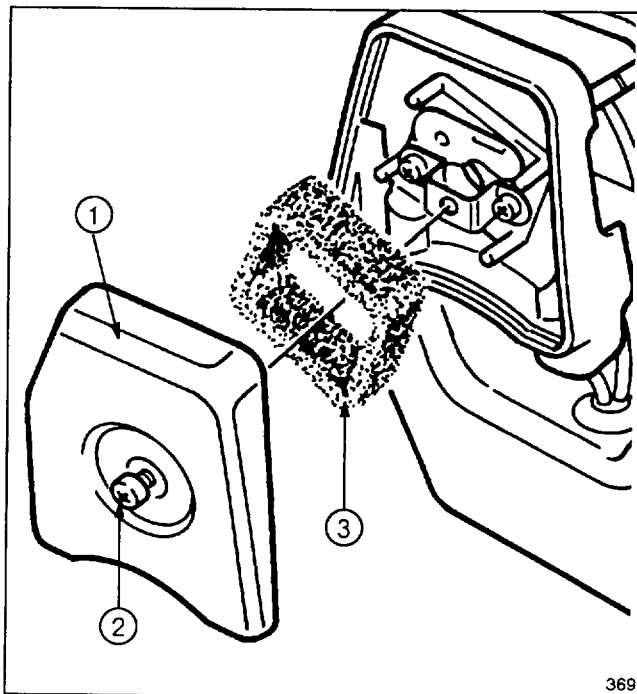

Figure 19
### SERVICING AIR CLEANER (Fig. 19)
5. Reinstall air cleaner components as shown in Figure 19.